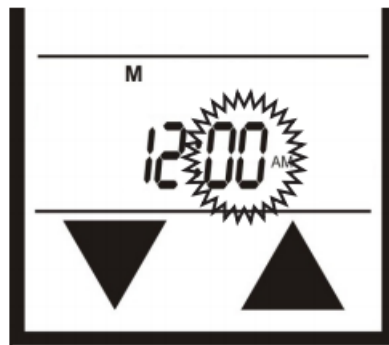

Fig. 6 Minutes.
- The minutes will be flashing. Use the **UP** and **DOWN** touch buttons to select the minute, then press **SET**. (Fig. 6)